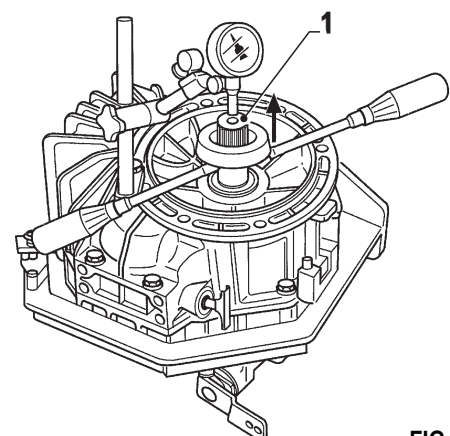

FIG. 5-4
- Fit clamping ring (tool p/n 618582) to the spline of the input shaft (item 1, Fig. 5-4).